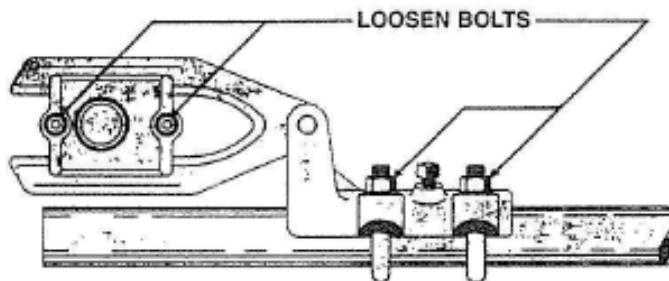

Figure 10: Top View of Adjustable Arm Assembly
- Loosen Adjustable Arm and Clevis Bolts - **Figure 10.**